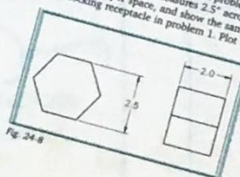

Fig. 24-8
2. Draw the hexagonal locking pin that fits into the alarm system receptacle in the administration building from problem 1. The pin, shown in Fig. 24-8, is 2" long and measures 2.5" across the flats. Use three viewports in paper space, and show the same views that you used for the locking receptacle in problem 1. Plot the views.